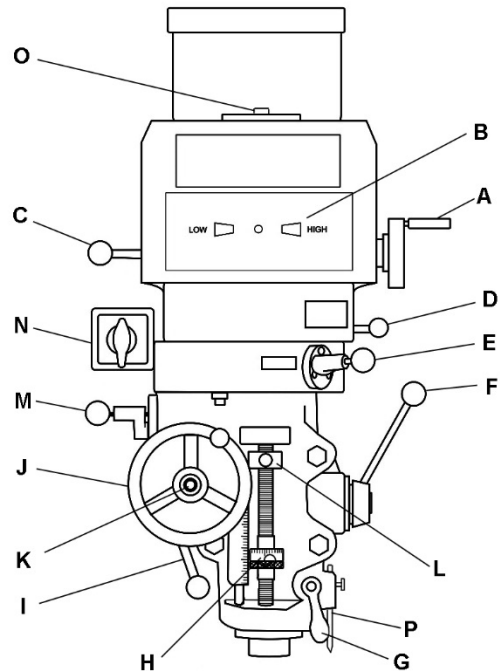
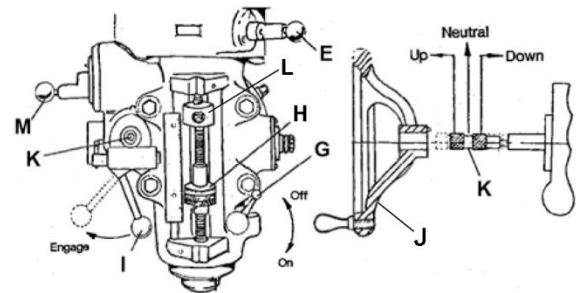

Figure 9-1: Controls
Figure 10-3: Manual feed controls
8. Remove any rust proofing from drawbar (O, Figure 9-1) and its washer, and place drawbar with washer installed into spindle center through top of machine.
9. Slide fine feed handwheel (J, Figure 9-1) over handwheel hub and push it back until its roll pin engages hole in the hub and handwheel is flush with hub surface.
10. Place coarse feed handle (F, Figure 9-1) on feed shaft and tap it lightly until its roll pin engages a hole in the hub. Tighten set screw to secure handle.
Refer to Figure 9-1.
- A. **Variable speed control** (A, Figure 9-1) – Turn handwheel to adjust spindle speed.
- G. **Quill lock** (G) – Rotate handle clockwise to lock quill in desired position; counter-clockwise to release.
- H. **Micrometer adjusting nut** (H) – Used for setting spindle depth, according to adjoining scale. Press button to rapidly slide nut for general positioning. Release button and rotate nut for fine adjustment. **Note:** One complete rotation of micrometer adjusting nut equals 0.025" (0.635mm) of spindle travel.
- I. **Feed trip control lever** (I) – Engages overload clutch on pinion shaft when lever is positioned to the left. Stays engaged until quill stop comes into contact with micrometer adjusting nut (forcing feed control lever to drop out automatically), or until lever is released manually by moving lever to the right.
- J. **Manual fine feed handwheel** (J) – Feed direction control knob (K) must be in neutral position. The feed control lever (I) must be engaged. **Note:** Manual feed handwheel may be removed when not in use.
- K. **Feed direction control** (K) – located in center of manual feed handwheel. Position of knob depends upon direction of spindle rotation. If boring with right hand cutting tools, pull feed knob towards operator until clutch becomes engaged. Neutral position is between forward and reverse position.
(Refer to Figure 10-3 and accompanying text for further detail.) If control does not engage easily, move handwheel (J) back and forth to aid engagement.
To change from high to low speed range, push in lever (D, Figure 9-1) and rotate it almost 180 degrees. Lever will stay in position once pressure is released.
Refer to Figure 10-3.
1. Disengage auto feed by pulling out knob (E, Figure 10-3) and moving lever to left hole.
2. Position feed reversing knob (K) to center, or neutral, position.
3. Disengage feed trip lever (I) by pushing towards head assembly.
4. Use coarse feed handle (see F, Figure 9-1) to move spindle.
Refer to Figures 9-1 and 10-3.
1. Ensure quill lock (G, Figure 10-3) is loosened by rotating counterclockwise.
2. Set micrometer nut (H) to desired depth.
3. Engage auto feed lever (E) by pulling out knob and moving lever to the right hole.
4. Select feed direction by setting feed direction knob (K) position per Table 4.